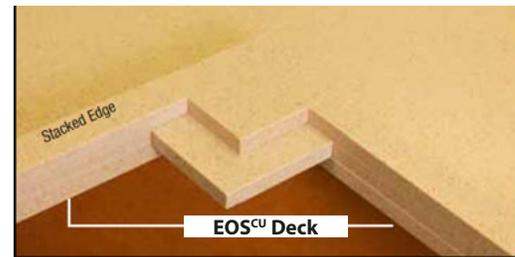

Figure 15A
1. Corner block method: minimum 3" (76.2mm) x 3" (76.2mm) block. (FIG. 15A)